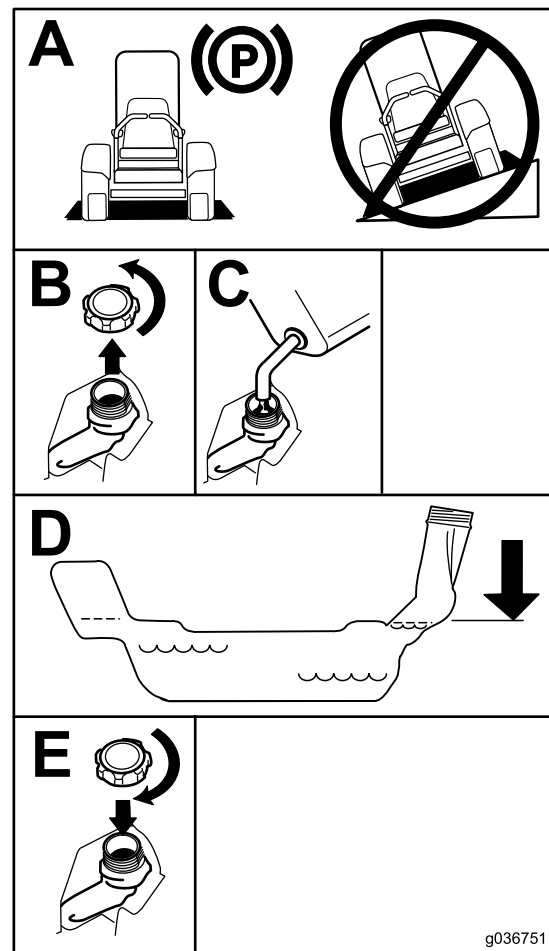

Figure 7
5. Fill the fuel tank to the bottom of the filler neck (Figure 7). Do not fill the fuel tank completely full